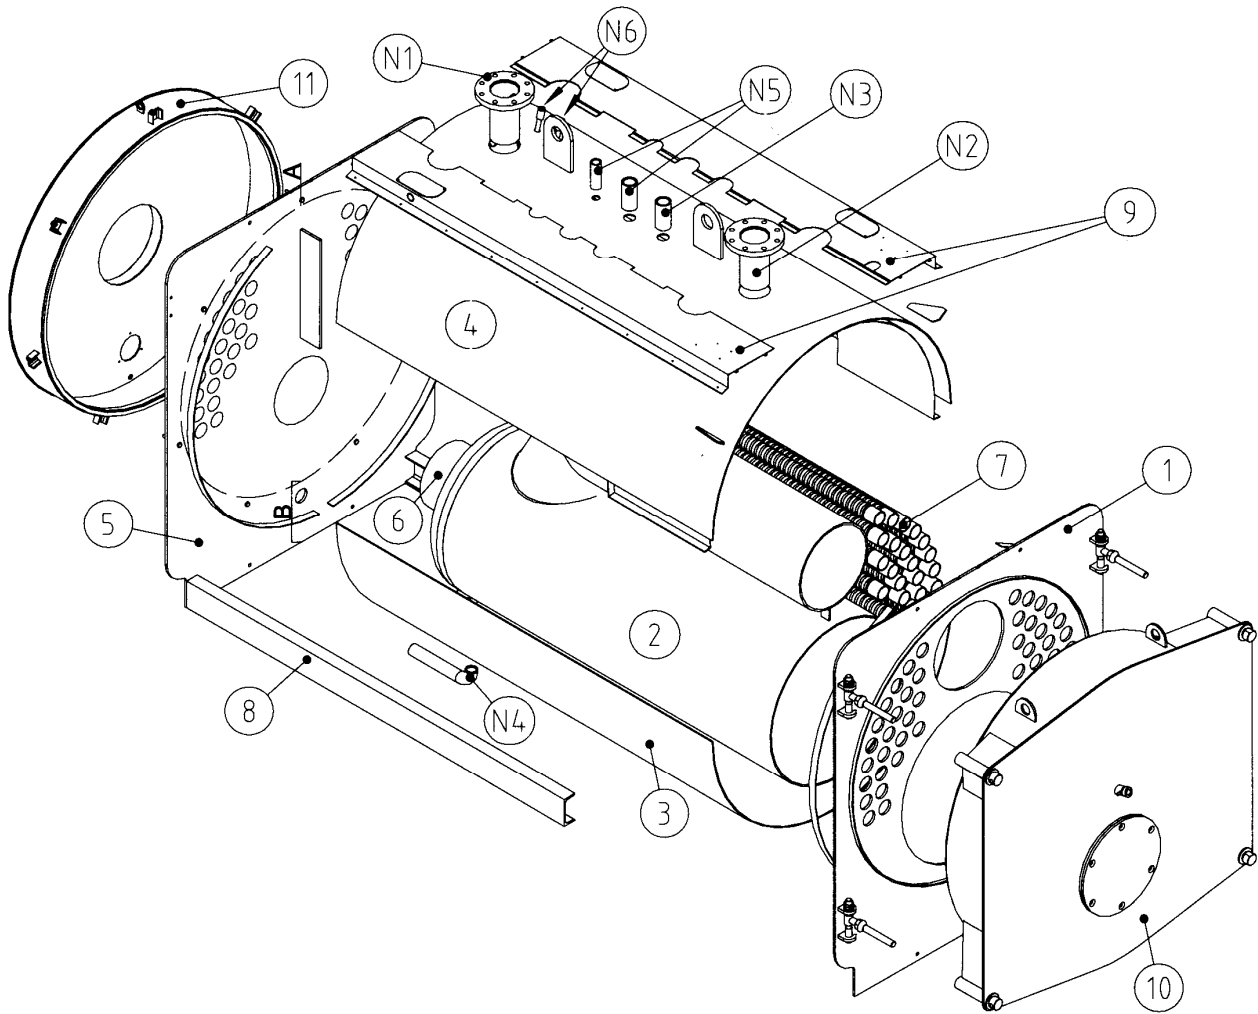

Fig. 7
4.2 MONTAGGIO CALDAIA GREENOx.e K 80-300 (Fig. 7)